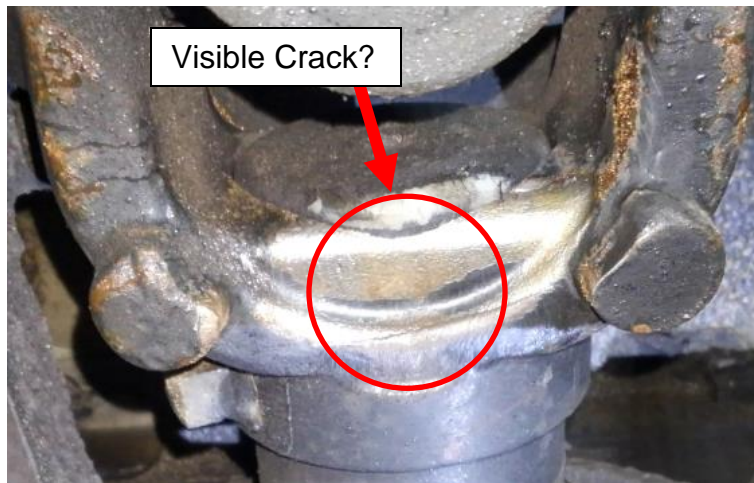

Figure 12: Driveshaft area of concern for cracks
8. If the driveshaft is **NOT APPROVED**, inspect the slip yoke for cracks at the center of the U-joint as seen figure 12.